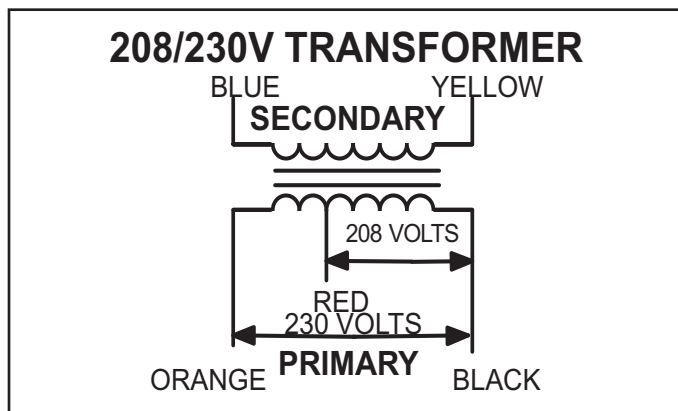

FIGURE 3
All units use a single line voltage to 24VAC transformer mounted in the control box. Transformer supplies power to control circuits in the unit. The transformer is rated at 70VA and is protected by a 3.5 amp circuit breaker (CB8). The 208/230 (Y) voltage transformers use two primary voltage taps as shown in figure 3, while 460 (G) and 575 (J) voltage transformers use a single primary voltage tap.